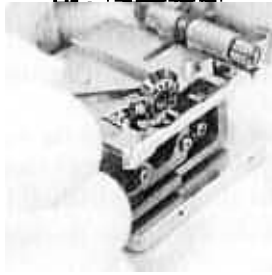

Fig. 10
- (ii) Remove the used blade from the cleaver with tweezers (refer to Fig. 10).